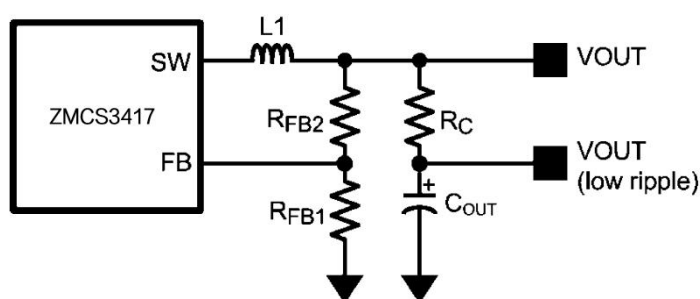

Figure 1 Low Ripple Output Configuration
This regulator regulates the output voltage based on ripple voltage at the feedback input, requiring a minimum amount of ESR for the output capacitor (C_{OUT}). A minimum of 25mV of ripple voltage at the feedback pin (FB) is required for the ZMCS3417. In cases where the capacitor ESR is too small, additional series resistance may be required (R_C in Figure 1 Low Ripple Output Configuration). For applications where lower output voltage ripple is required the output can be taken directly from a low ESR output capacitor, as shown in Figure 1 Low Ripple Output Configuration.